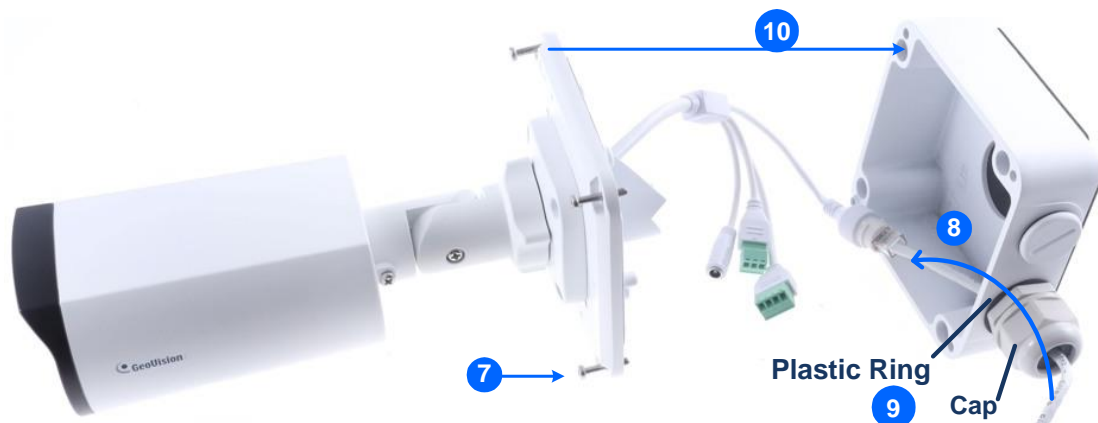

Figure 1-63
- Reattach the box cover to the power box, as shown in No. 7, *Figure 1-63*.
- Thread the Ethernet cable through the PG21 conduit connector and the power box as shown in No 8, *Figure 1-63*. Then connect the cable to the camera. To waterproof the cable, see *1.8 Waterproofing the Cable*.
- Rotate the plastic ring to secure the conduit connector to the power box. Secure in the cap, as shown in No 9, *Figure 1-63*.
- Secure the box cover to the power box, as shown in No 10, *Figure 1-63*.
7. Thread the Ethernet cable through the center hole (proceed to Step 9) or through the PG21 conduit connector and the power box as shown in No 8, Figure 1-63 (proceed to Step 8).
8. Rotate the plastic ring to secure the conduit connector to the power box. Secure in the cap, as shown in No 9, Figure 1-63.